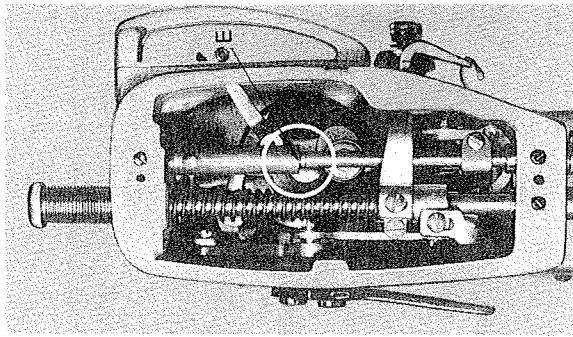

Fig. 15
- 3) Turn the handwheel towards you until the needle reaches the lowest point of its travel. Continue until on its rise the lower one of the timing marks on the needle bar reaches the bottom end (E) of the needle bar bushing. (Fig. 15)